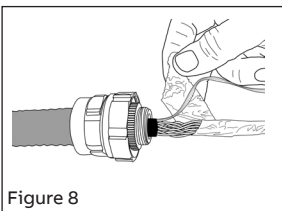

Figure 8
- Remove outer (overall) shield from the conductor bundle. Take care not to nick or damage the inner shields (Figure 8).